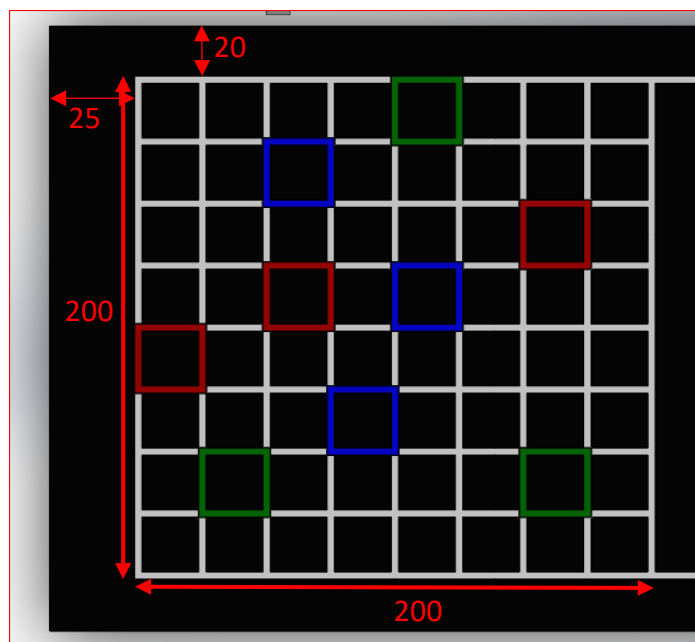

Figure 1.2
- There are 64 squares on the grid (8 squares per side, see Figure 1.2.)
- Out of the 64 squares in the grid, **9 will be colored (3 red, 3 blue and 3 green) and the rest will be white.** These 9 squares will be in random and will not be the same as in Figure 1.2.